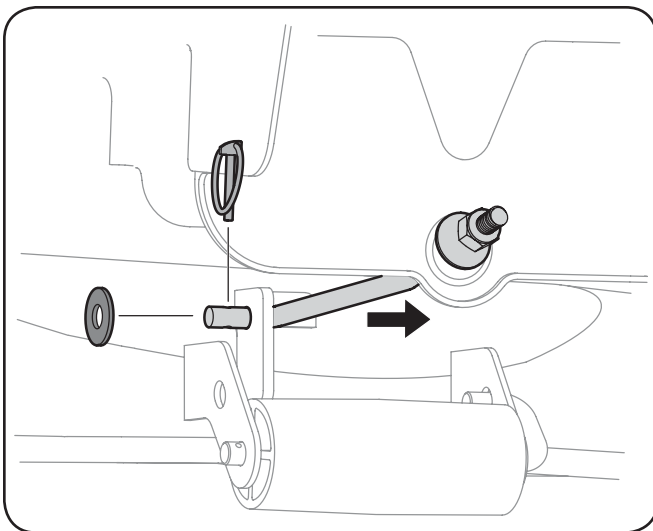

Figure 7-4
9. Remove the cotter pin and flat washer from the end of the stabilizer rod and slide the stabilizer rod out of the hanger bracket on the deck, as shown in Fig. 7-4.